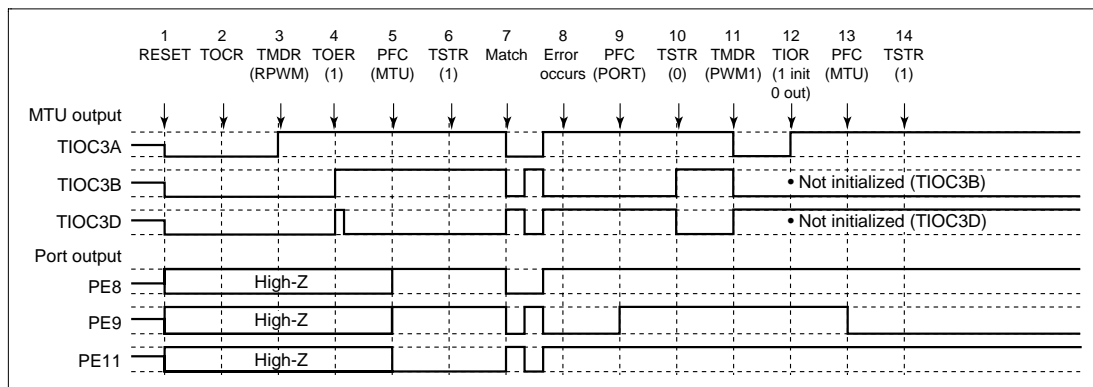

Figure 12.122 Error Occurrence in Reset-Synchronous PWM Mode, Recovery in PWM Mode 1
(26) Operation when Error Occurs during Reset-Synchronous PWM Mode Operation, and Operation is Restarted in PWM Mode 1: Figure 12.122 shows an explanatory diagram of the case where an error occurs in reset-synchronous PWM mode and operation is restarted in PWM mode 1 after re-setting.